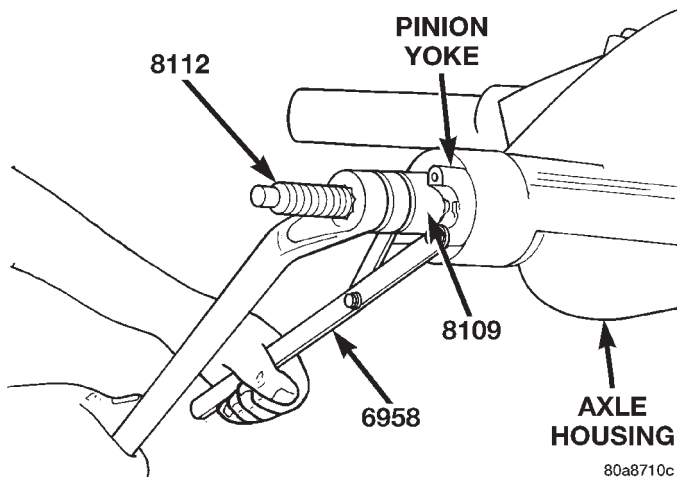

Fig. 13 Pinion Yoke Installation
(2) Install yoke on the pinion gear with Screw 8112, Cup 8109, and Holder 6958 (Fig. 13).